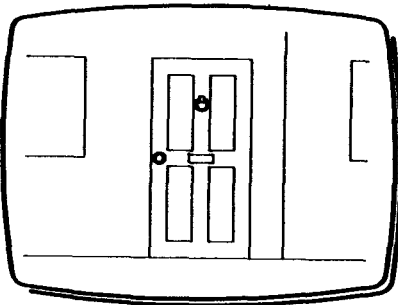

Fig 3
- 4 Add detail in the form of some door panels (Fig 3).